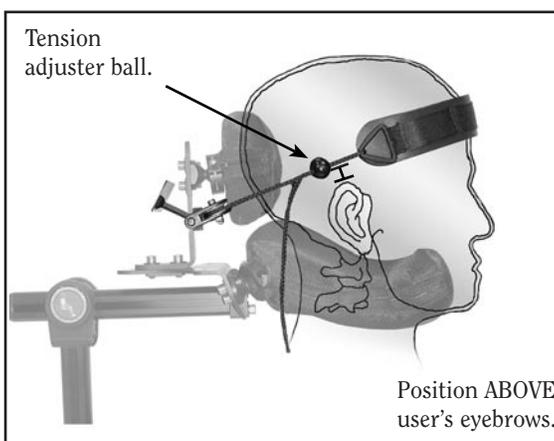

Fig.4
**Step 3 (Fig. 3) - Adjusting the angle of forehead strap pull:** Adjust the assembly up or down to achieve a direction of pull on the forehead that is perpendicular to the slope of the forehead (Fig.4).